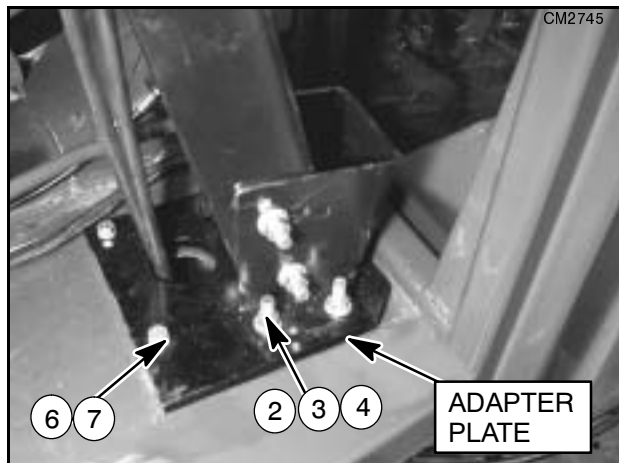

Figure 25 Assembled Control Stand Bracket
4. Install controller mount bracket on top of the pre installed carriage bolts and fasten with lock washers (3) and nuts (4) as shown in Figure 25.